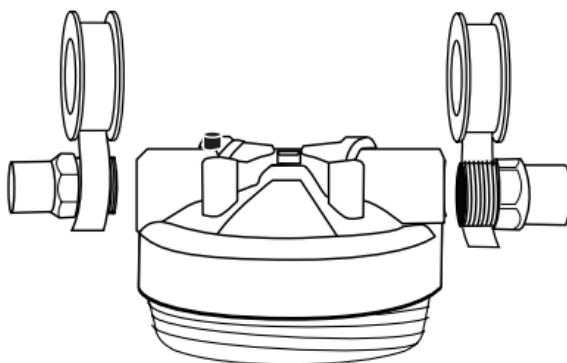

Figure 1
3. Wrap Plumbers tape (2 $\frac{1}{2}$ wraps) around the 1" male x 1" NPT adapter in a clockwise direction (See Figure 1) and screw firmly to filter head. Do not use pipe solvent (dope), as solvents in some types of pipe dope may cause damage to plastic fittings. Do not overtighten, overtightening can cause damage to filter head.